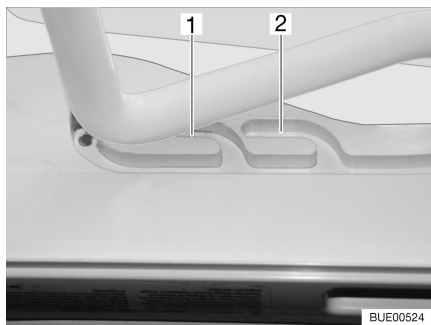
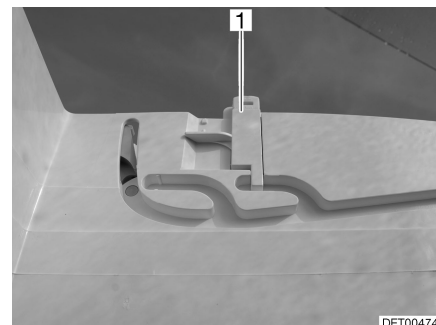

Fig. 27 Heki skylight in ventilation position
Fig. 28 Ventilation position locking mechanism
The Heki skylight can be put in two ventilation positions: Bad weather position (Fig. 27,1) and central position (Fig. 27,2). Depending on the model, the skylight can be locked in the central position with both left and right latches (Fig. 28,1) on the skylight frame.
- Push the bar slightly upwards and into the selected guide (Fig. 27,1 or 2) and lock if necessary.